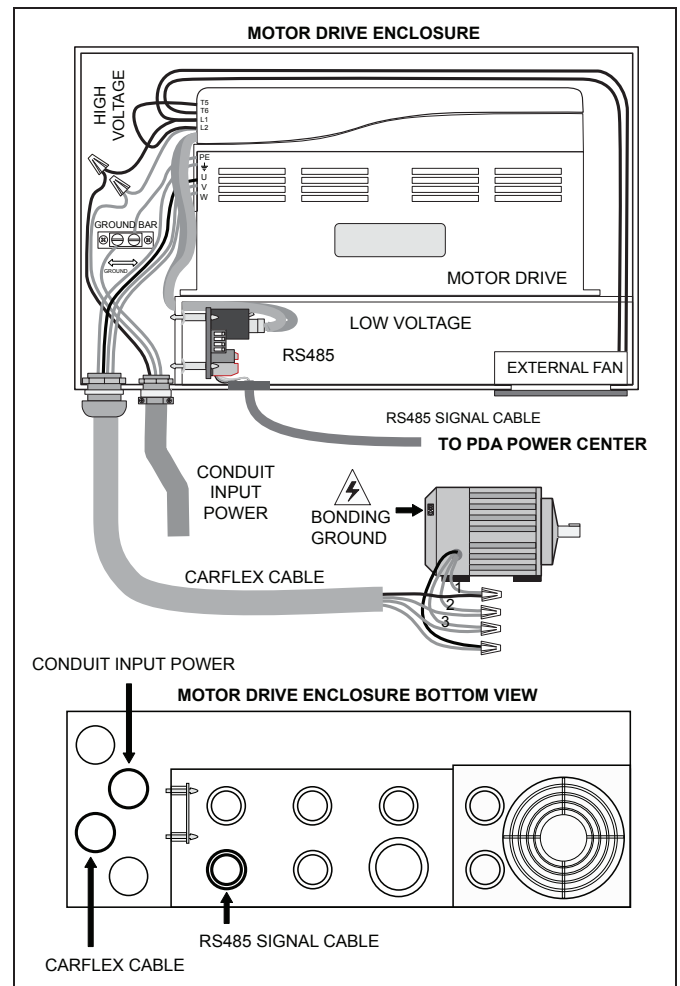

Figure 10. Wiring of the Jandy ePump™ AC Variable Speed Pump to the Power Center
8. Connect the red and black wires (L1 and L2) of the motor drive to the two load side connections on the filter pump relay as shown in Figure 10. If the pump is not to be used for filtration then you would connect the red and black wires to the load side connections of an AUX relay.
9. Connect the black (U), red (V), blue (w), and green wires from the motor drive to the pump motor.